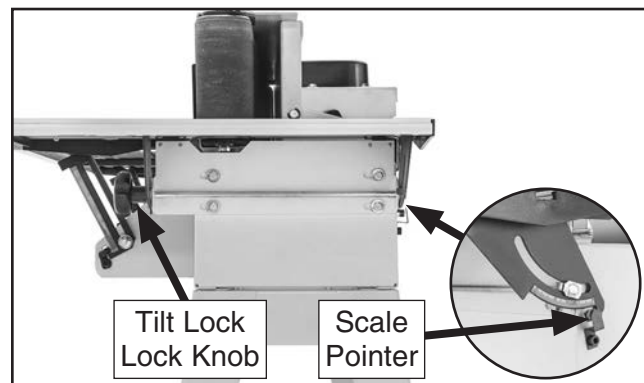

Figure 32. End table tilt lock knob and scale pointer location.
2. Loosen end table tilt lock knob (see **Figure 32**).
3. Manually adjust end table angle, using scale pointer as guide (see **Figure 32**).